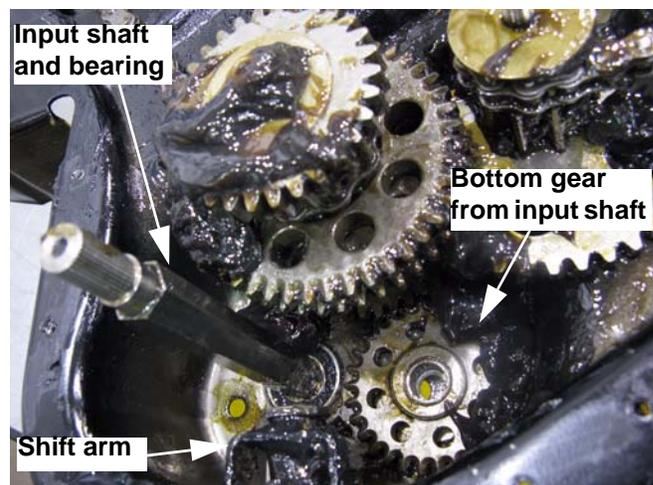

Figure 5.55
6. Remove the counter shaft from the chain case. See Figure 5.55.